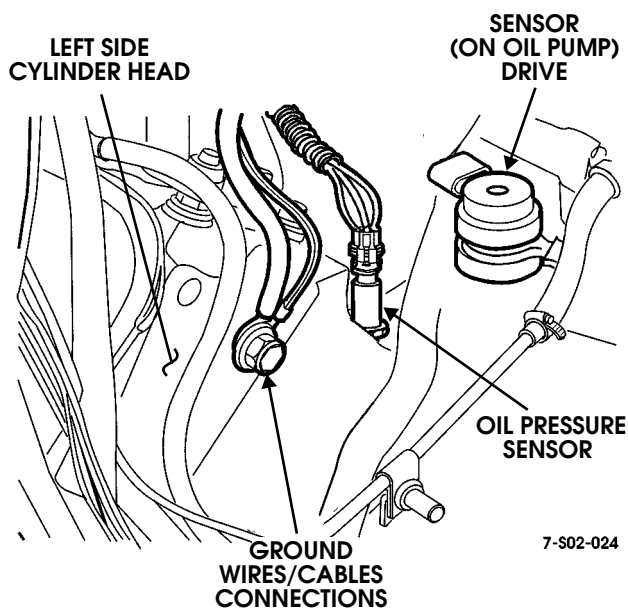

Figure 2-70: Connections at Rear of Engine
29. At rear of engine, disconnect following (Figure 2-70):
- Ground wires (Figure 2-70)